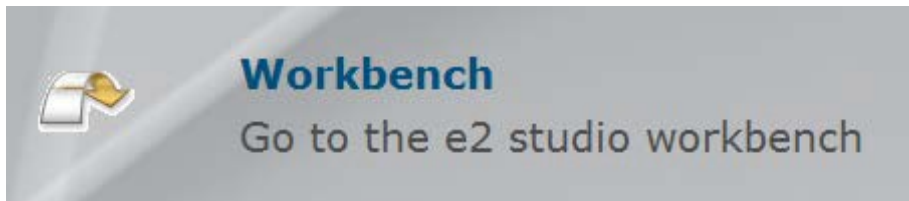

Figure 2.3 Workbench arrow
- D. When the workspace is opened, you may see the Welcome Window. If that happens, click the Workbench arrow to proceed past the Welcome Screen as seen in Figure 2.3.